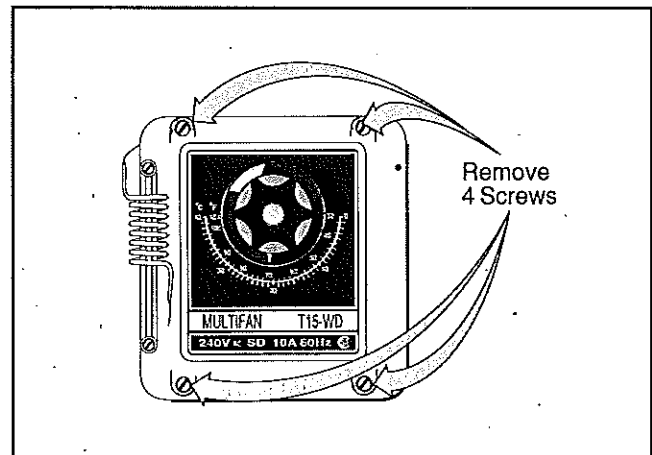

Figure 4. Remove the Cover
1. Remove the four screws holding the cover of the thermostat, and carefully open the thermostat. See Figure 4. Remove the Cover.